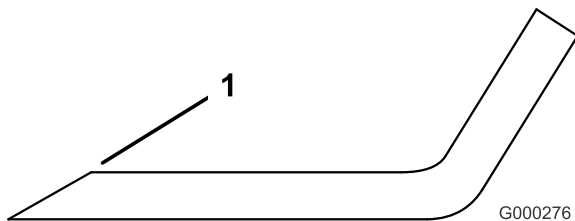

Figure 91
1. Use a file to sharpen the cutting edge at both ends of the blade (Figure 91). Maintain the original angle. The blade retains its balance if the same amount of material is removed from both cutting edges.